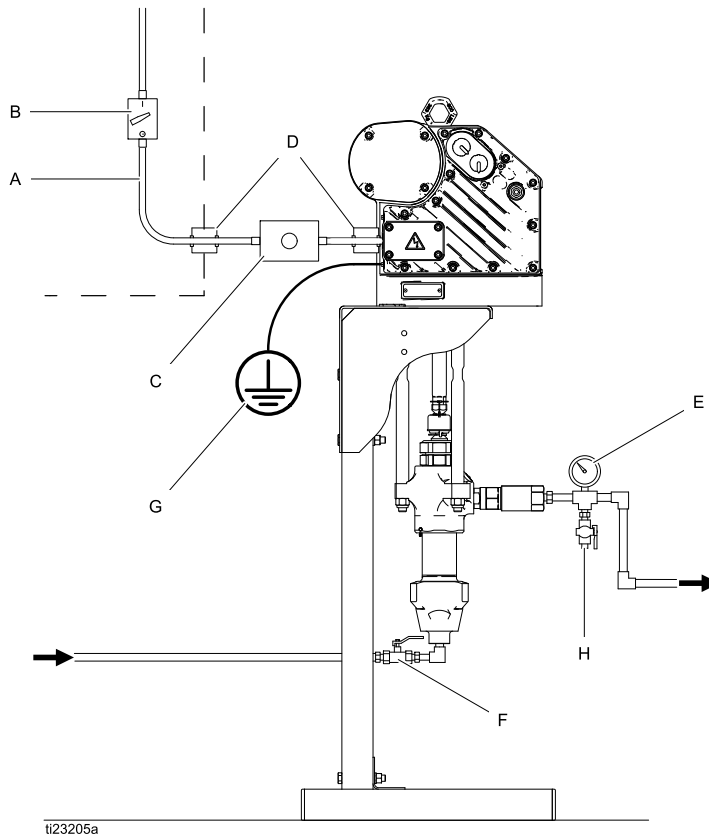

Figure 1 Typical Installation
Key for Fig. 1
Install the following accessories as shown in Fig. 1, using adapters as necessary. All fluid lines and accessories must be rated to the maximum working pressure of 400 psi (2.8 MPa, 28.0 bar).
1. Disengage the start/stop control (C). See Fig. 1.
2. Shut off and lock out the fused safety switch (B).
3. Open the fluid drain valve (H), having a waste container ready to catch drainage. Leave open until you are ready to operate again.